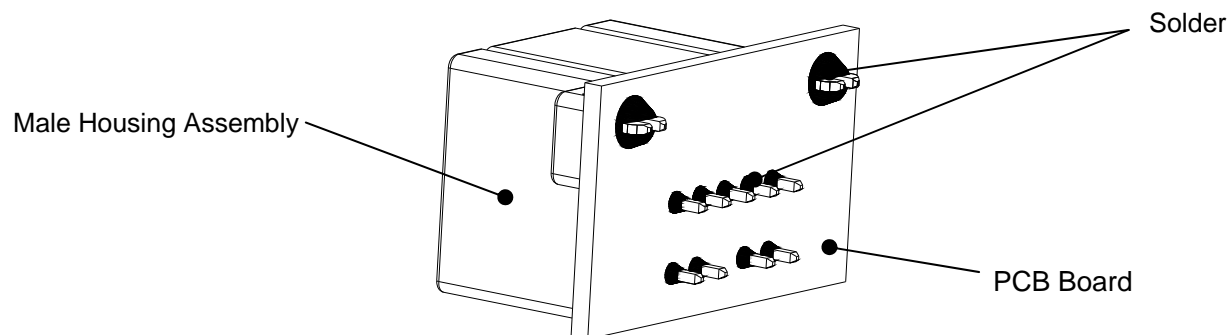

Figure 24. Placing the Male Assembly on the PCB Board (e.g. 9 positions)
- d) Solder the male pins and reinforcement pins on the PCB board. See Figure 24.